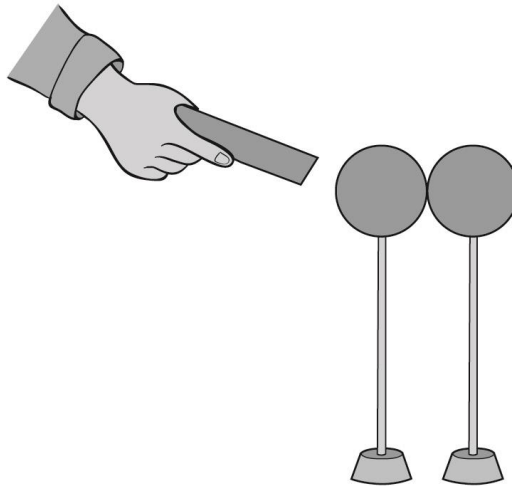

Figure 2
1. Bring the two conductive spheres into contact (see Figure 2).